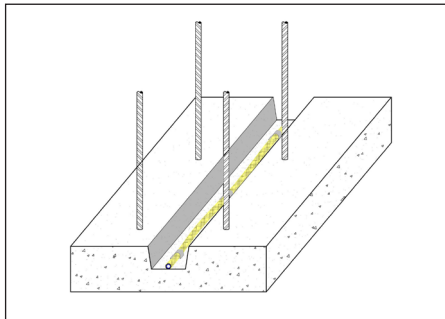

Figure 1
- Begin by placing the InjectPro-Hose YELLOW along the center of the joint and securing it to the concrete. Exact location will depend on design and function of structure. The InjectPro-Hose YELLOW is attached using the included fastening clamps spaced roughly every 12" (30 cm), however, spacing may need to be adjusted based on site specific conditions. Ensure the hose is flat against the concrete so that it cannot float or come loose when the fresh concrete is placed. In areas of rough or uneven surfaces, fill any gap between InjectPro-Hose YELLOW and the surface with Aquafin Waterstop-GunGrade. (Fig. 1 - 3)